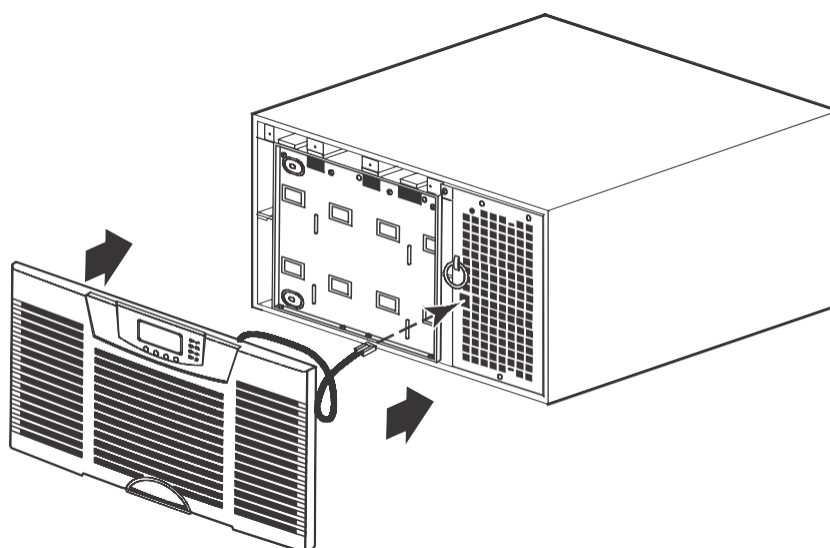

Figure 58. Installing the UPS Front Cover
6. Install the UPS front cover (see Figure 58):